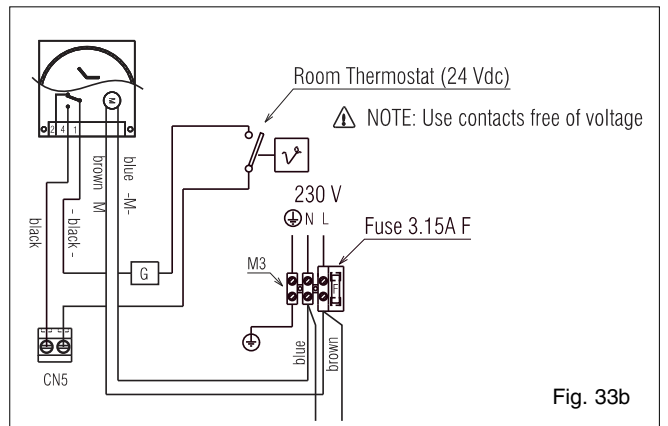

Fig. 33b
- programmable room thermostats (fig. 33b)